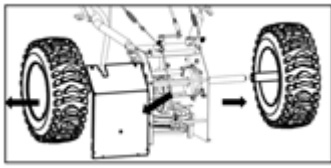

Fig. 24
b. Remove the wheels. See Figure 24.